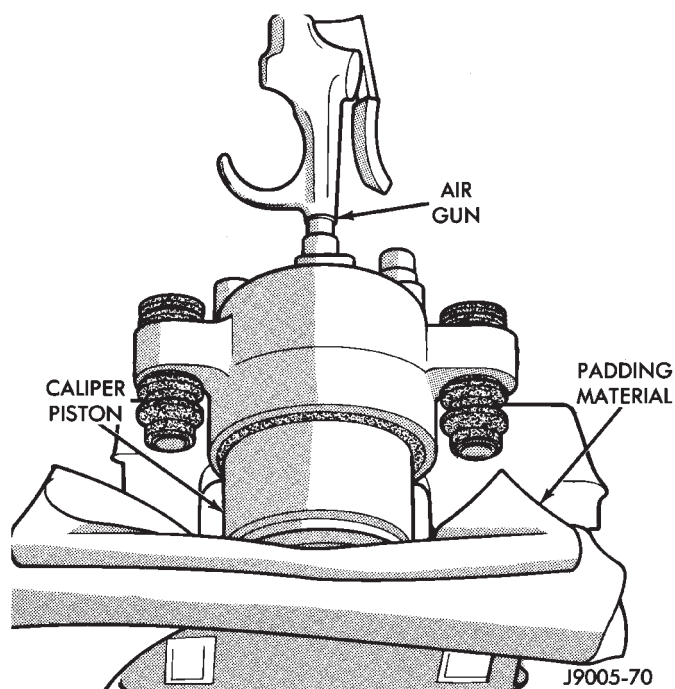

Fig. 47 Caliper Piston Removal
(4) Remove caliper piston with **short bursts** of low pressure compressed air. Direct air through fluid inlet port and ease piston out of bore (Fig. 47).